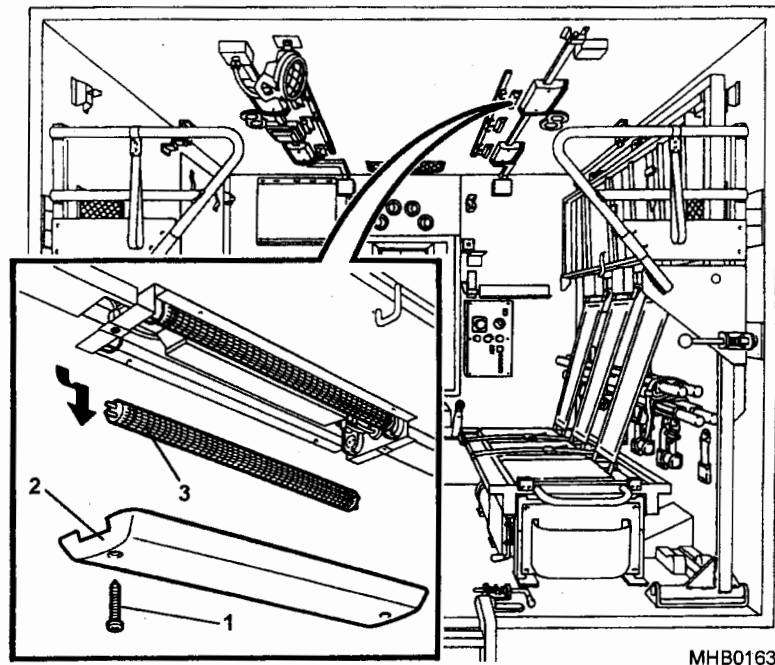

Fig 4 Fluorescent roof lights
- 7.2 Remove the two screws (Fig 4 (1)) securing the cover (2) to body of light unit.